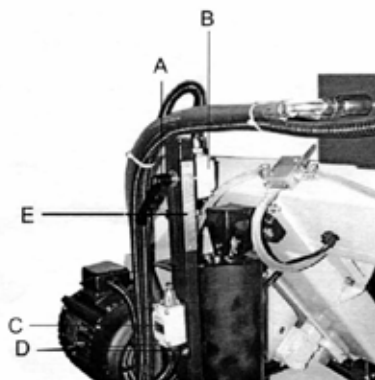
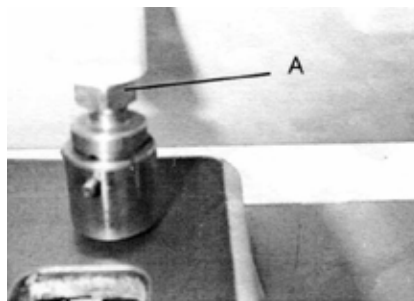

Figure 7. Bow Height Settings
Figure 8. Down-Bow Dampener Adjustment
The user presets the height at which the bow stops when it raises automatically. Bow height depends upon the piece to be cut. See Figure 7. The limit switch is lowered or raised by loosening a locking knob (**A**). Tighten the locking knob when the limit switch **B** is properly adjusted. The scale (**E**) allows the user to position the bow height from 0 to 13" above the bed. The saw arm will automatically return to the preset level when after the cut.
To produce a better cut, this bandsaw reduces the rate of down-bow when the blade approaches the table. The saw is equipped with a standard (inch) size blade at the factory. Because the width of standard size and metric size blades are slightly different, using a metric-sized blade requires adjusting the dampener by turning the cap screw (Figure 8, **A**) clockwise about 1-1/2 revolution. The limit switch must also be adjusted (Figure 7, **C**). Otherwise, the bow will not automatically raise after completing the cut.
NOTE: If the bow or blade fails to stop, limit switch (Figure 7, **C) must be raised.**
1. Loosen 2 screws (Figure 7, **D**).